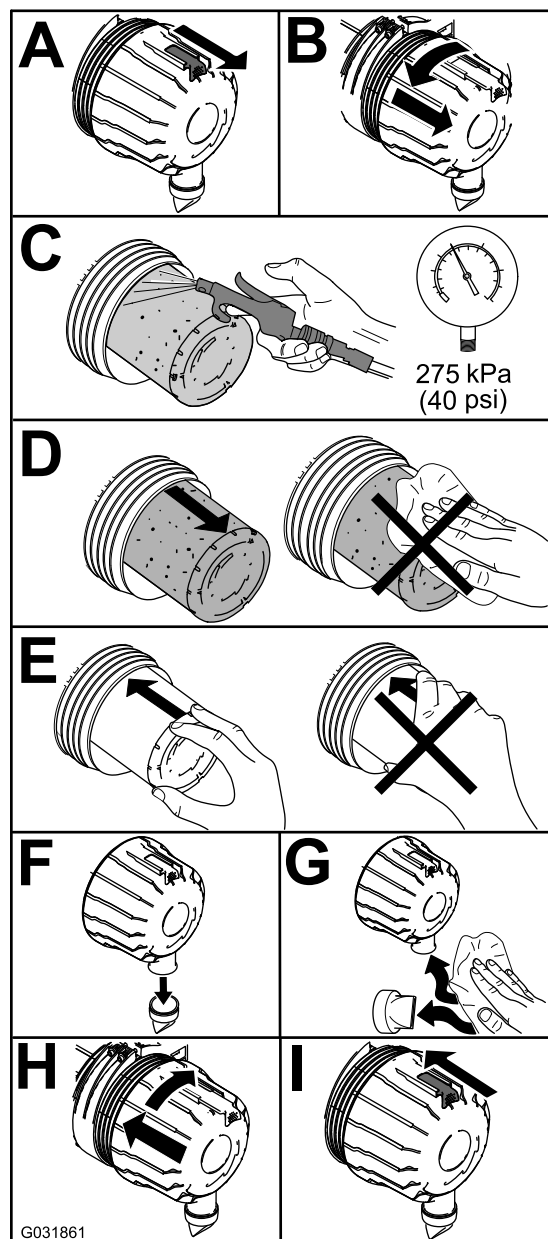

Figure 47
1. Replace the air cleaner (Figure 47).